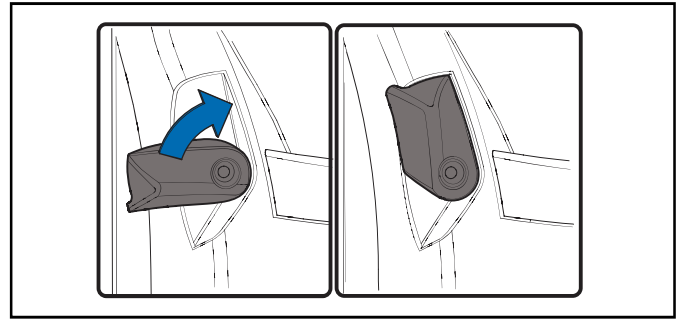

Figure 15 Door Latch Detail
Step 4: Rotate latches to secure door as shown in Figure 15.